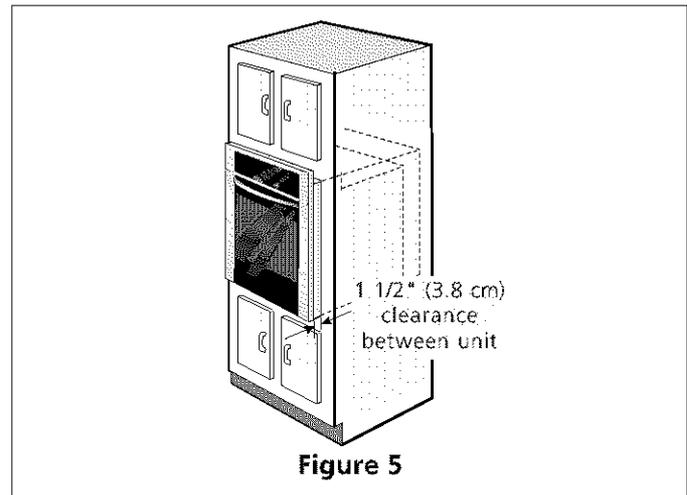

Figure 5
3. Insert the unit into the cabinet opening. Slide unit inward leaving $1\ 1/2"$ (3.8 cm) clearance between the oven and front of cabinet (see Figure 5). Pull the armored cable through the hole in the floor and toward the junction box while moving the appliance inward.